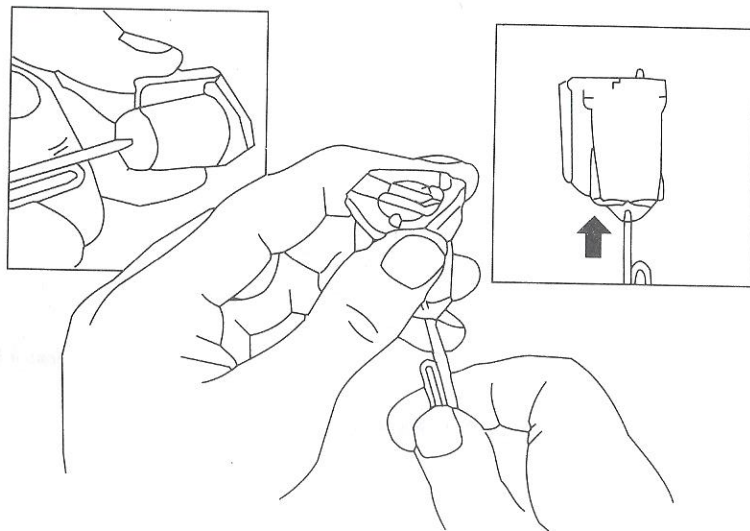

Figure 2-3. Priming the Print Head
2. Insert a paper clip into the bottom of the ink cartridge as shown in Figure 2-3 and press gently until the ink flows to the surface. This process is called "priming" the printhead.